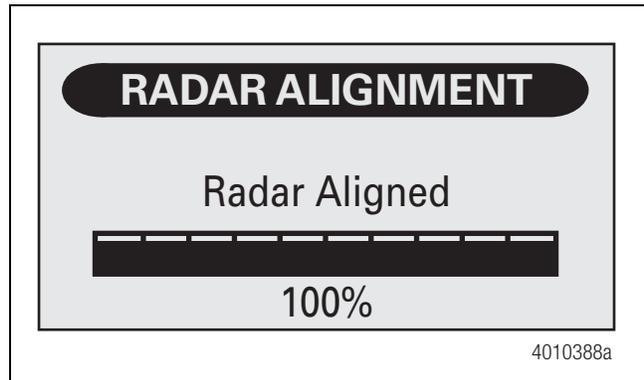

Figure 13
3. Wait until the Radar Aligned screen appears. Figure 13. This typically takes 10 to 30 minutes of driving time to complete.